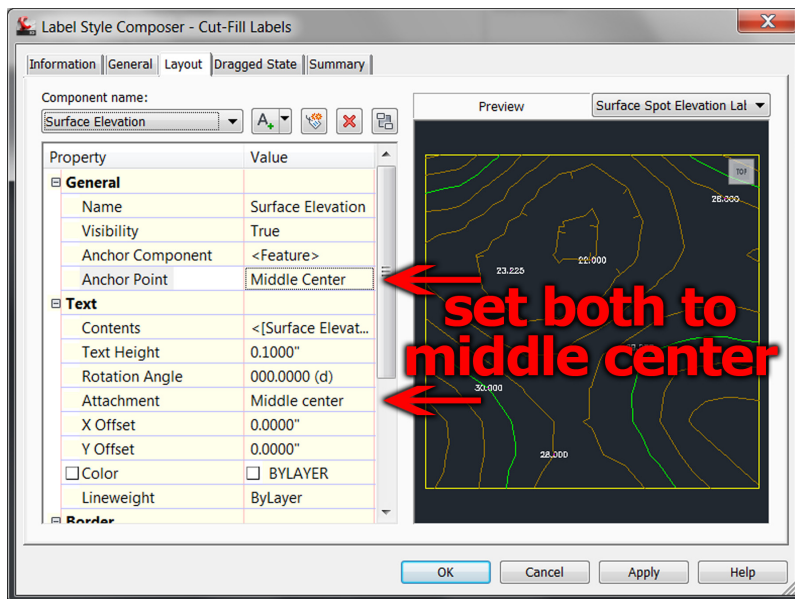

Figure 8: Setting both Anchor Point and Attachment to "Middle Center" allows the label to define the measurement and the sample location.
**Step 1:** On the Settings tab of the Toolspace, expand the Surface group followed by the Label Styles group. **Step 2:** Right-click on the Spot Elevation heading and select New to open the Label Style Composer. **Step 3:** Select the Information tab and name the style "Cut-Fill Labels." **Step 4:** Select the General tab and use the Label Layer setting to select an appropriate layer name for the labels. (Example – volume lbls). **Step 5:** Select the Layout tab, choose an appropriate Text Height, and set the Anchor Point and the Attachment settings to "Middle Center" (see Figure 8).